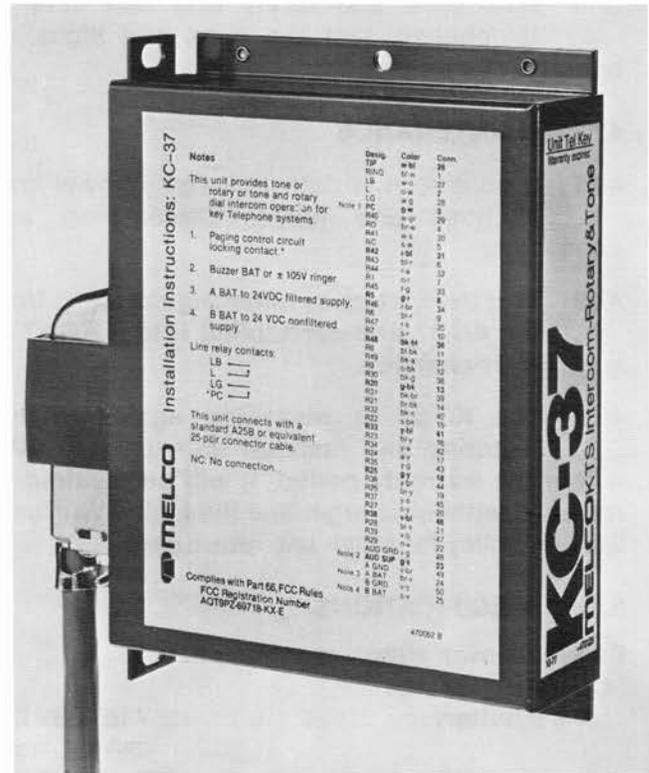

Fig. 1
- 3.04 Fasten a connector-ended cable to the KC-37 housing (see Figure 1).